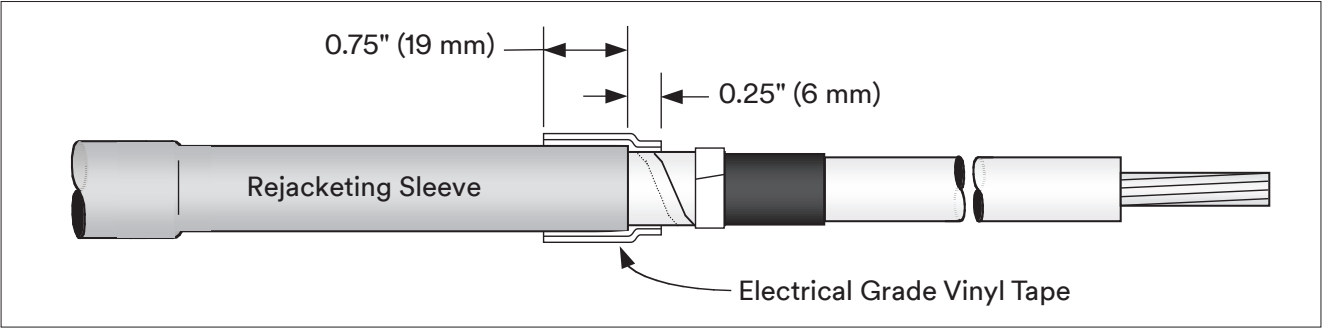

Figure 20
6.3 Secure rejacketing sleeve with two half-lapped layers of electrical grade vinyl tape (Figure 20). Start taping 0.75" (19 mm) over rejacketing sleeve, extend 0.25" (6 mm) over cable metallic shield and return to starting point.